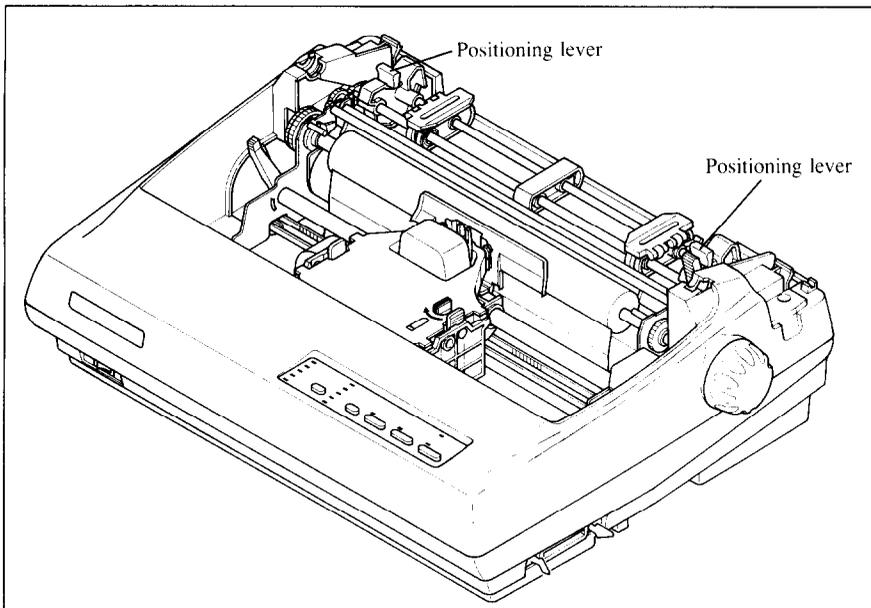

**Figure 1-15.** Mounting the paper guide for fanfold forms
13. Replace the rear cover, and mount the paper guide in the horizontal position shown in Figure 1-15, so that it will separate the printed from the unprinted paper.